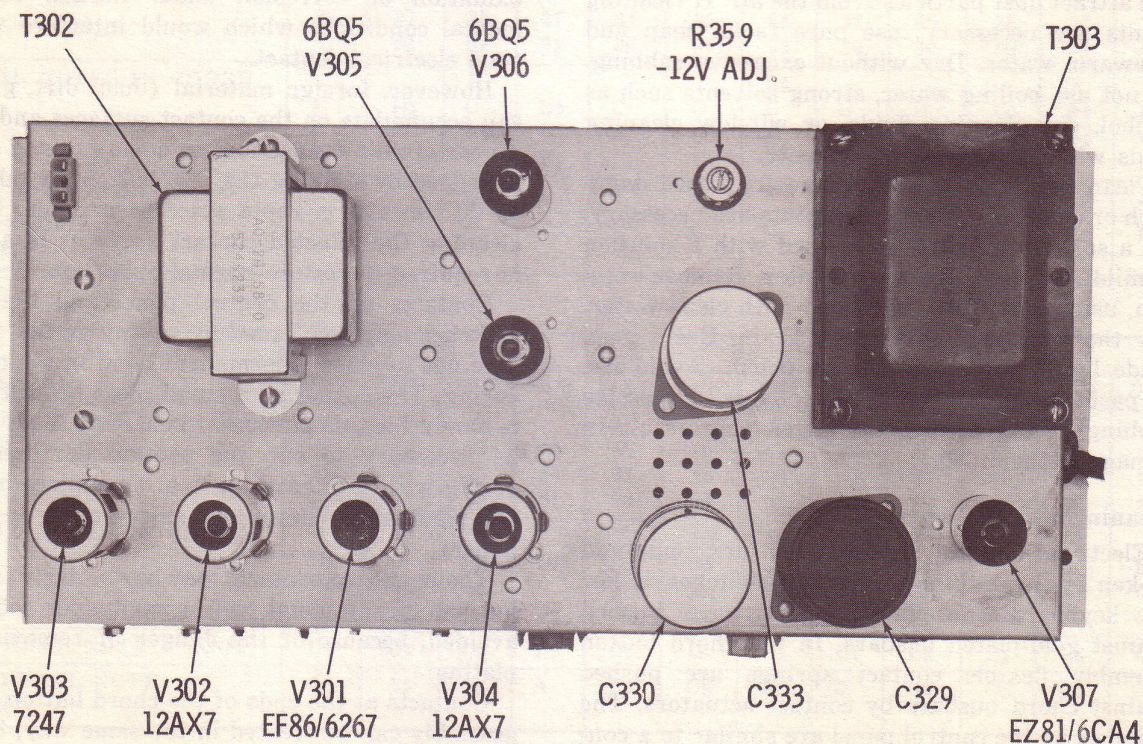

Fig. 9. Amplifier Chassis—Top View.
-12 Volt Adjustment—R359 (See Fig. 9 for location)